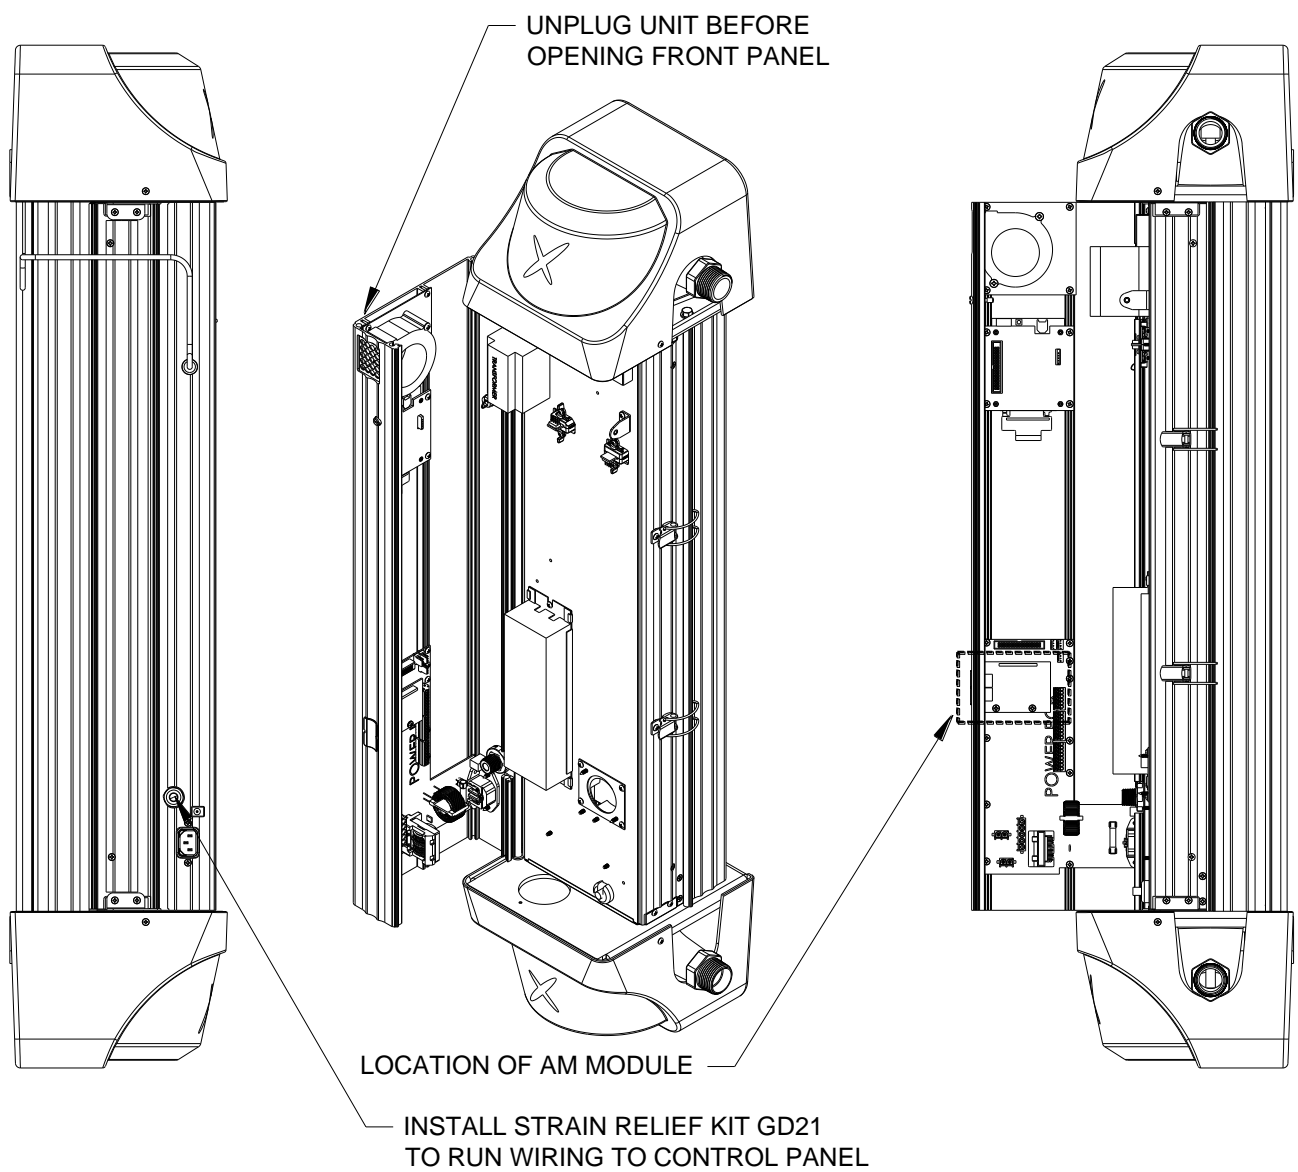

Figure 1
Two 4-20mA output loops are available on the Hallett 500, 750 and 1000 series of units. The 4-20mA option is normally purchased at the time of order of the UV unit. The hardware consisting of an Analog-Modbus (AM) module circuit board will be installed onto J4 connector of the Power Circuit Board – See Figure 1 below. Also included is the strain relief kit GD21 that will be installed into the front panel.